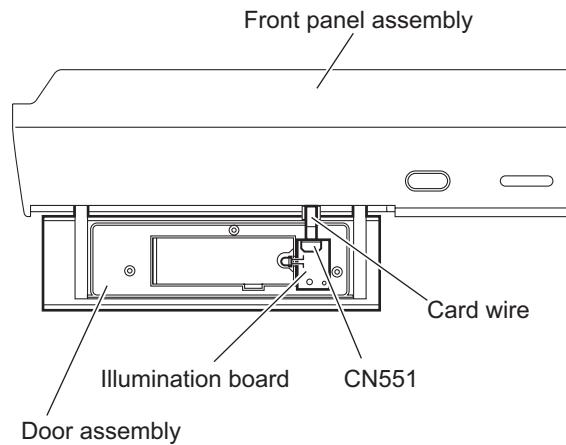

Fig.18
- (2) Disconnect the card wire from the connector **CN551** on the illumination board. (See Fig.18.)
- (3) Take out the illumination board from the door assembly.